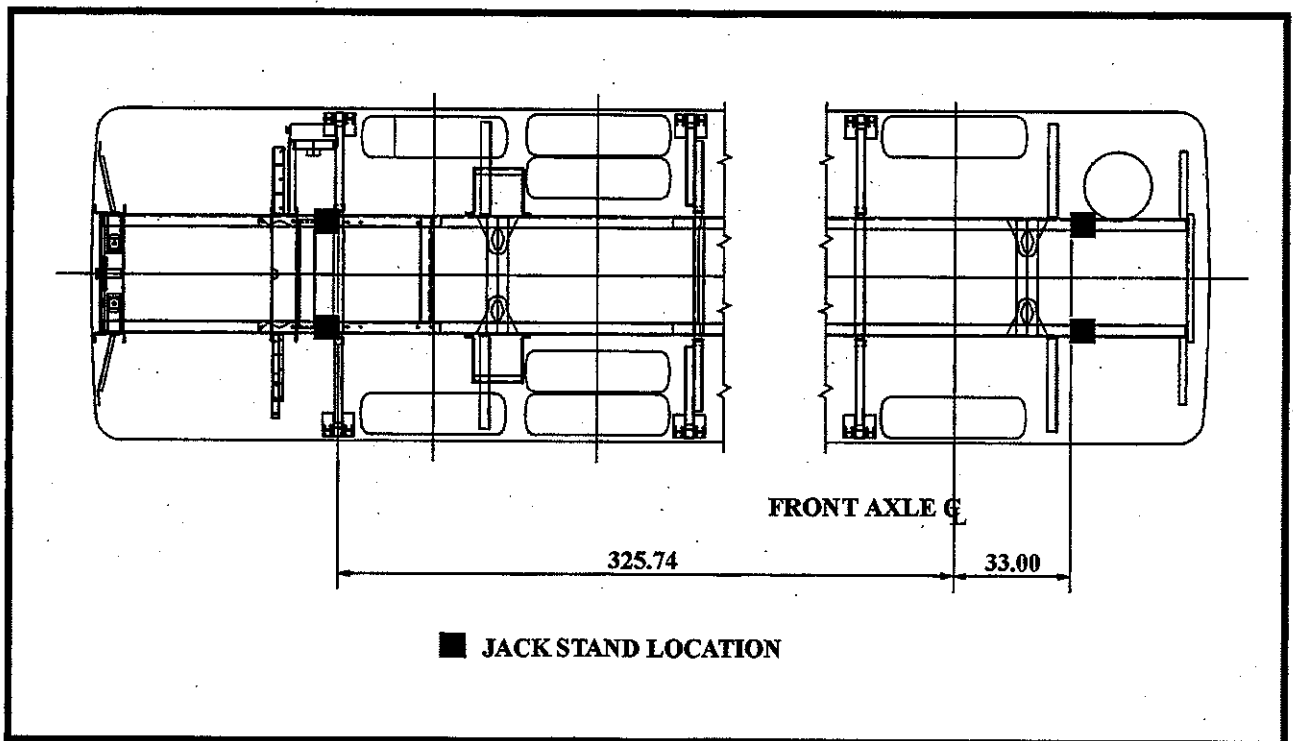

Figure 2—Jackstand Location
4. Install four tall 15,000-pound jackstands, two in the front and two in the rear. (See Figure 2—Jackstand Locations.)